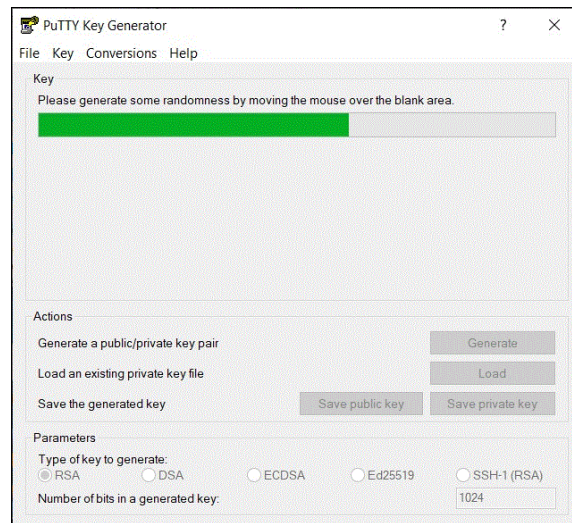

Figure B-2 Generating keys
2. Click **Generate** and move the cursor over the blank area to generate keys (see Figure B-2).